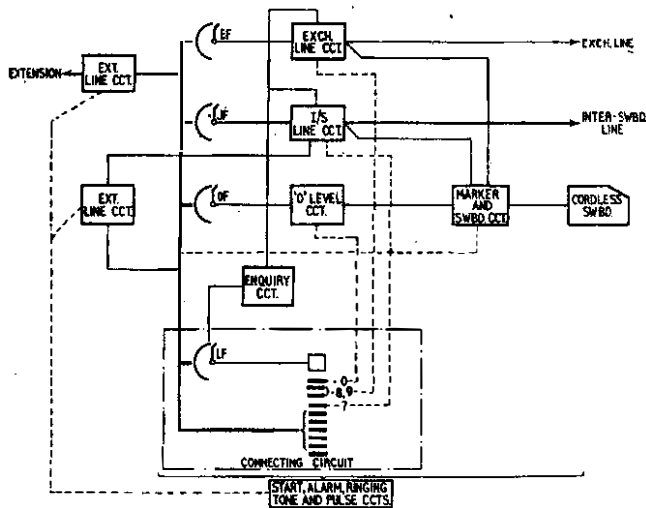

FIG. 4.—TRUNKING ARRANGEMENTS OF P.A.B.X. NO. 1.
A trunking diagram of the P.A.B.X. is given in Fig. 4 and will be referred to in the explanatory outline in the paragraphs which follow.
This type of connection can only be made over an inter-switchboard circuit. Referring to Fig. 4, an extension line circuit is shown associated with the inter-switchboard circuit. An incoming call over an inter-switchboard line will be connected initially via this extension circuit to a connecting circuit. The wanted extension will be dialled and upon the receipt of the two digits the connecting circuit will cause the line-finder (JF) to find the required number. The connecting circuit will then be released.